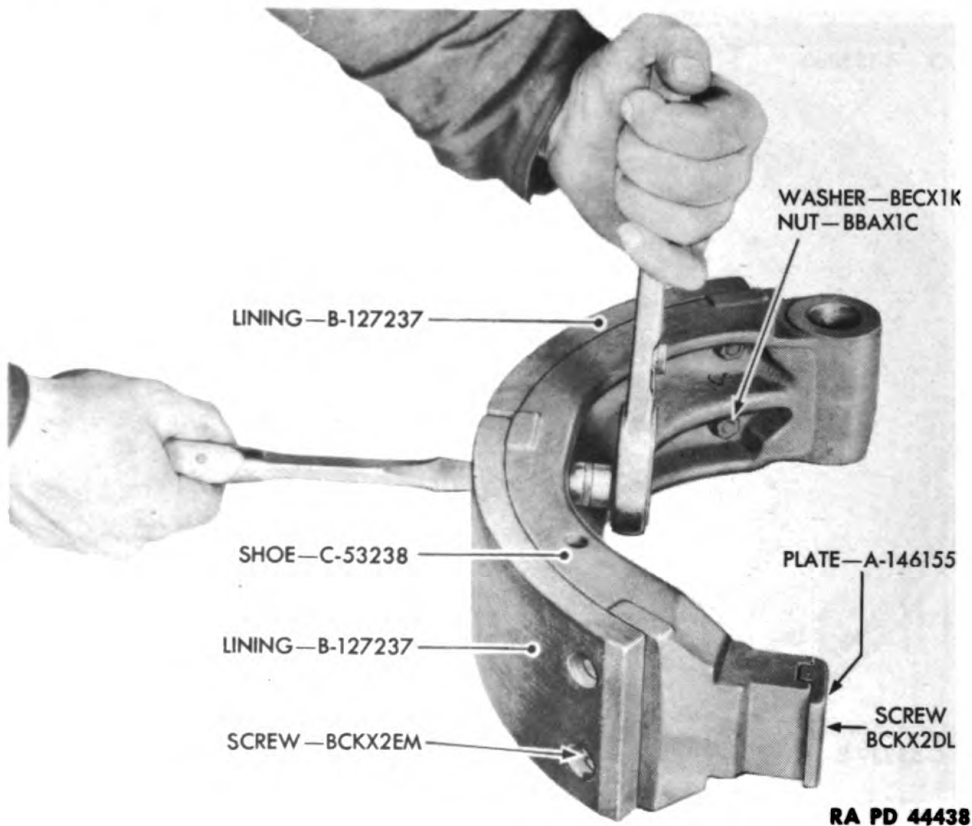

Figure 304—Removing Brake Lining
(6) Remove screws BCKX2EM, nuts BBAX1C, and washers BECX1K from lining B127237 and shoe C53238 (fig. 304). Remove lining.
(7) Remove plate A146155 by removing screw BCKX2DL.
(8) Repeat procedure as described in steps (1) through (7) above to disassemble the other three wheel brake assemblies.
(1) Place brake shoe cam plate in position and secure with screw (fig. 304).